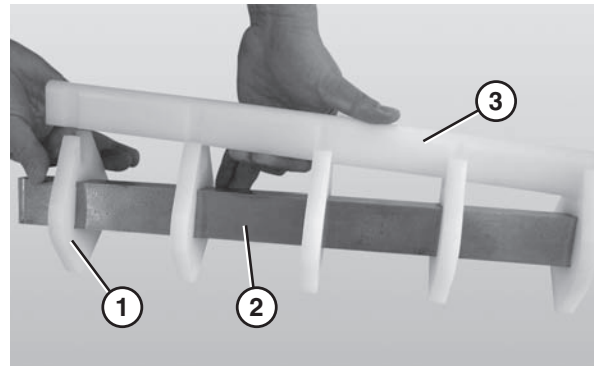

Figure 65
3. Remove the nose bar wear strip (**Figure 65, item 3**).
4. Slide the nose bar pucks (**Figure 65, item 1**) off the nose bar shaft (**Figure 65, item 2**).